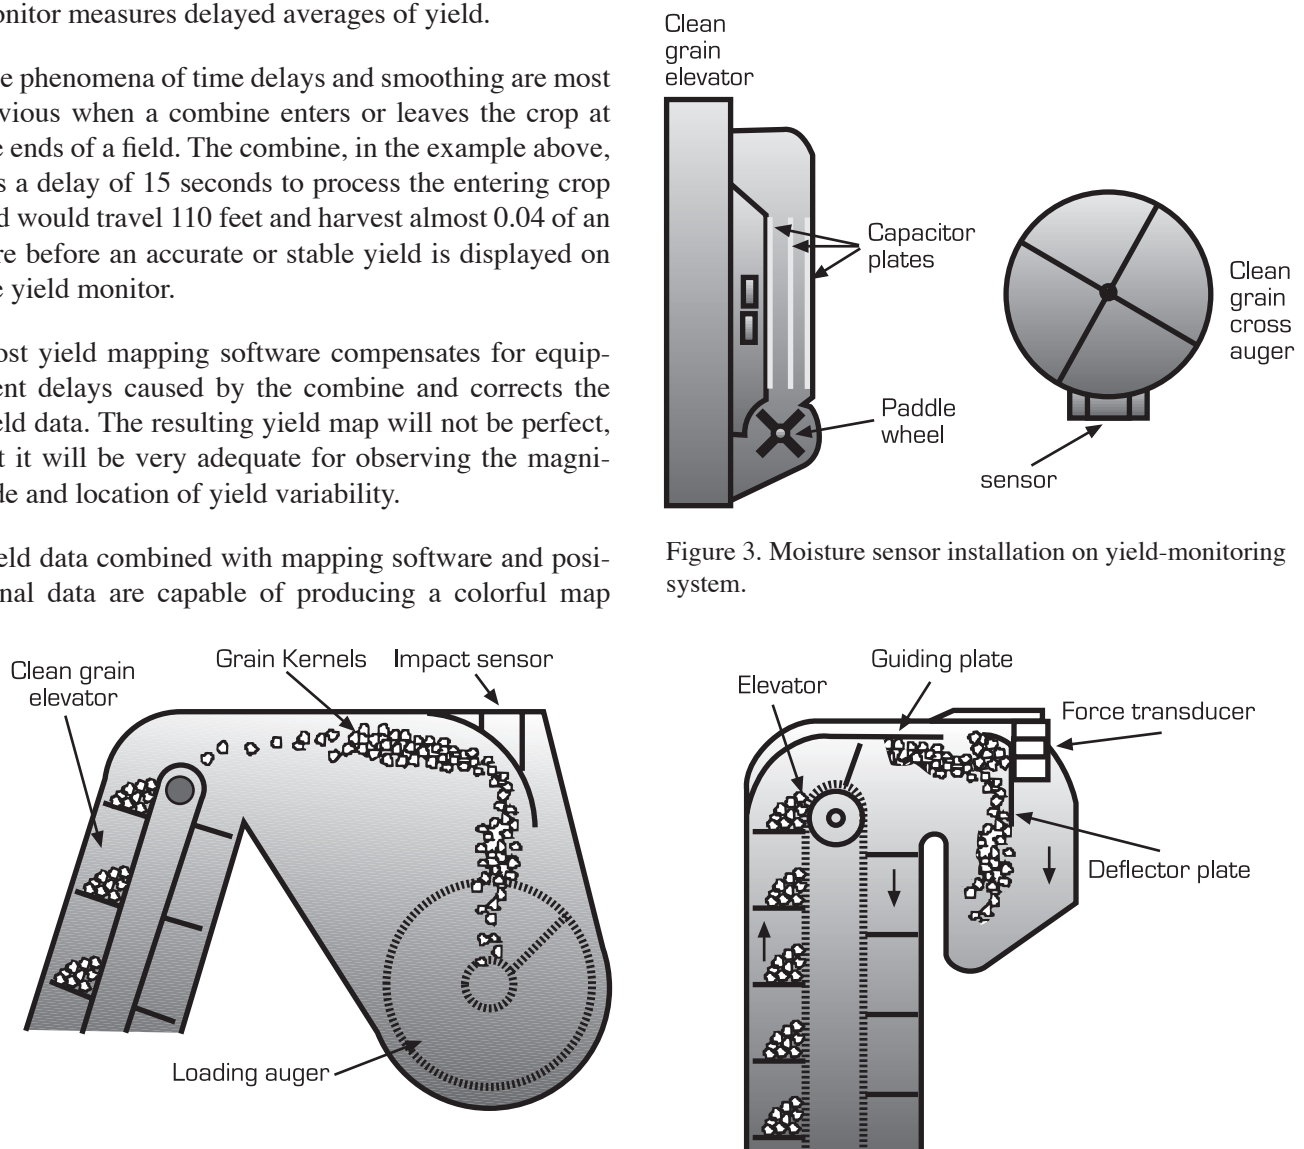

Figure 2. Mass flow sensor on yield-monitoring system.
time, or (4) the volume of grain on an elevator paddle. The most common method is to measure the force of the grain striking a plate located at the top of the clean grain elevator (Figure 2). The calibration of these units will depend on the elevator speed, the type of crop, and the moisture of the grain.